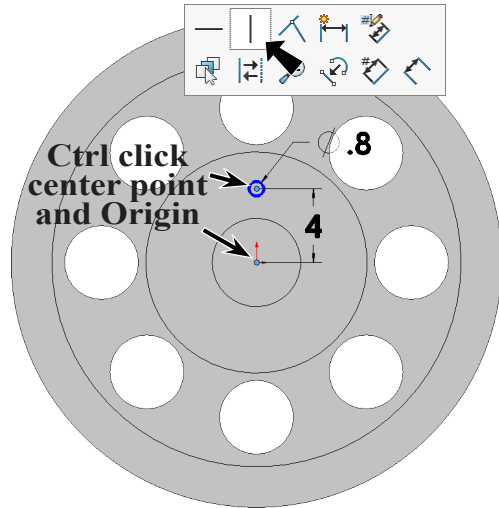

Fig. 28
Step 8. **Ctrl click centerpoint of circle and Origin** to select both. Release Ctrl key and click **Make Vertical** on the context toolbar, Fig. 28.